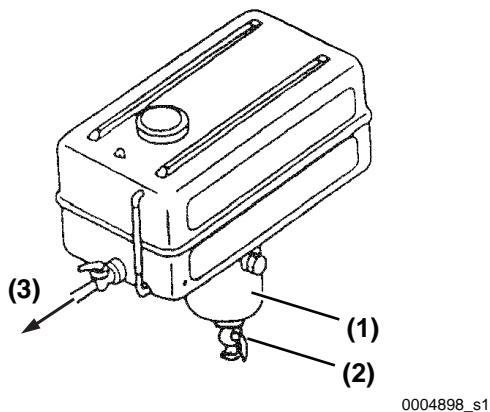

Figure 3-19
Install a drain cock (Figure 3-19, (2)) at the bottom of the fuel tank to remove water and contaminants from the sediment bowl (Figure 3-19, (1)).